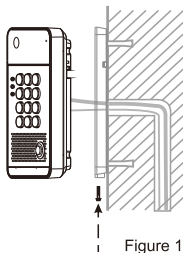

Figure 10
- B. Push the device into the Wall-mounted hanging shell and tighten it with 1 screw as shown in Figure 10.